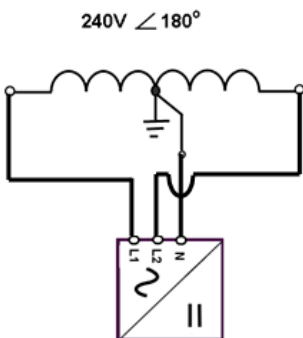

Figure 15: 240V / 120V Split Phase AC Grid
5. With at least two persons on either side of the inverter, lift it up and place it carefully onto the mounting plate. Install two screws as shown in the figure 15 to secure the device.